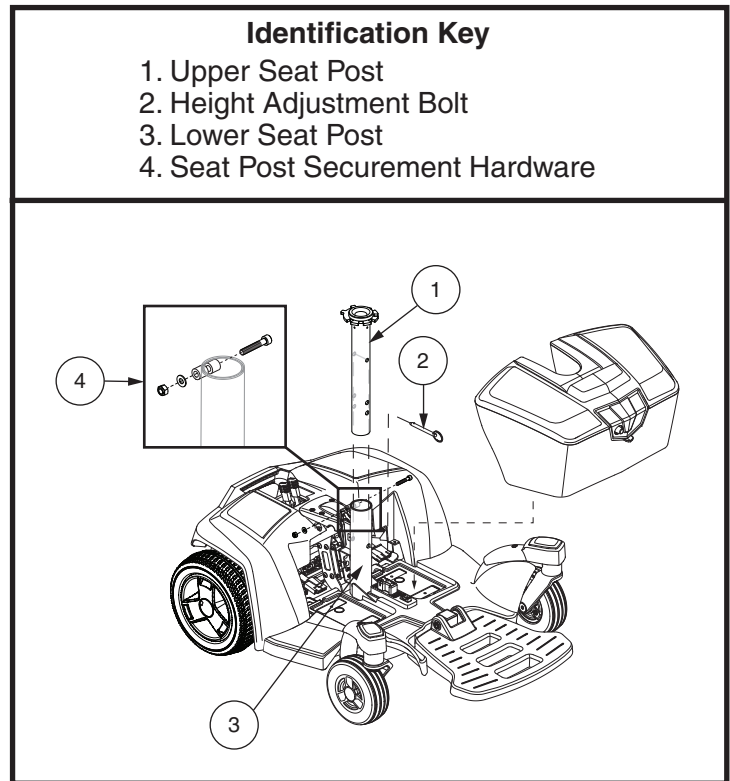

Figure 8. Seat Height Adjustment
8. Loosen the hardware at the rear of the seat post. **See figure 8**
9. Pull seat post pin for height adjustment. **See figure 8.**